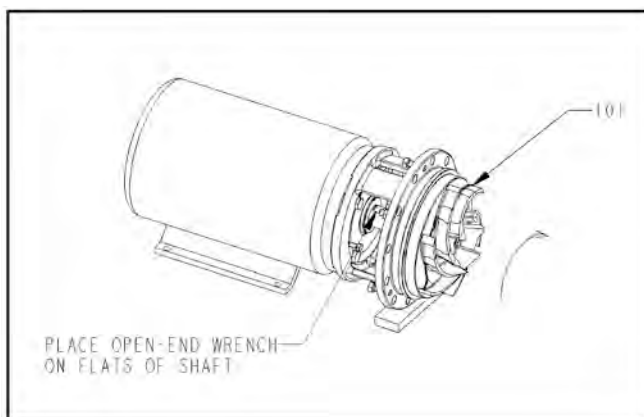

Figure 57:
12. To do this, measure the gap between the face of the seal chamber (184) and the back of the impeller pumpout vanes (101) (Fig. 57).
17. Check impeller (101) runout. Check vane tip to vane tip. If total indicator reading is greater than 0.005 in. (.13 mm), determine cause and correct before proceeding (Fig. 57).